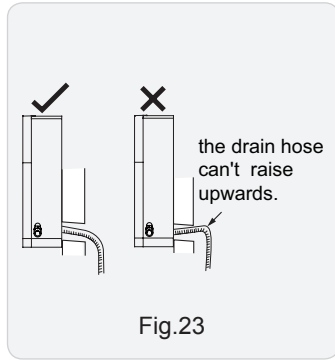

Fig.23
- (1) The pipes should be placed along the wall, bent reasonably and hidden possibly. Min. semidiameter of bending the pipe is 10cm.
- (2) If the outdoor unit is higher than the wall hole, you must set a U-shaped curve in the pipe before pipe goes into the room, in order to prevent rain from getting into the room.(As show in Fig.23)
- (1) The through-wall height of drain hose shouldn't be higher than the outlet pipe hole of indoor unit.(As show in Fig.23)